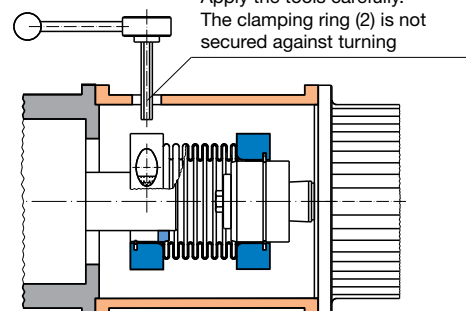

Fig. 8
– see also Fig. 6 and Fig. 8
2. Push the entire coupling over the whole length of the reducing bushing (5) onto a shaft.
– see also Fig. 7 and Fig. 8
1. Remove the clamping ring (2) with the protruding reducing bushing with tapered bore (6) from the coupling.
3. Push the reducing bushing with tapered bore (6) onto the conical shaft.
5. Push the rest of the coupling with the open steel bellows side up to its limit between the clamping ring (2) and reducing bushing with tapered bore (6).
6. Tighten the cap screw (4). The screw tightening torque (see Technical Data, page 4) must be observed.
7. Push the second shaft over the entire length of the reducing bushing (5) into the coupling.